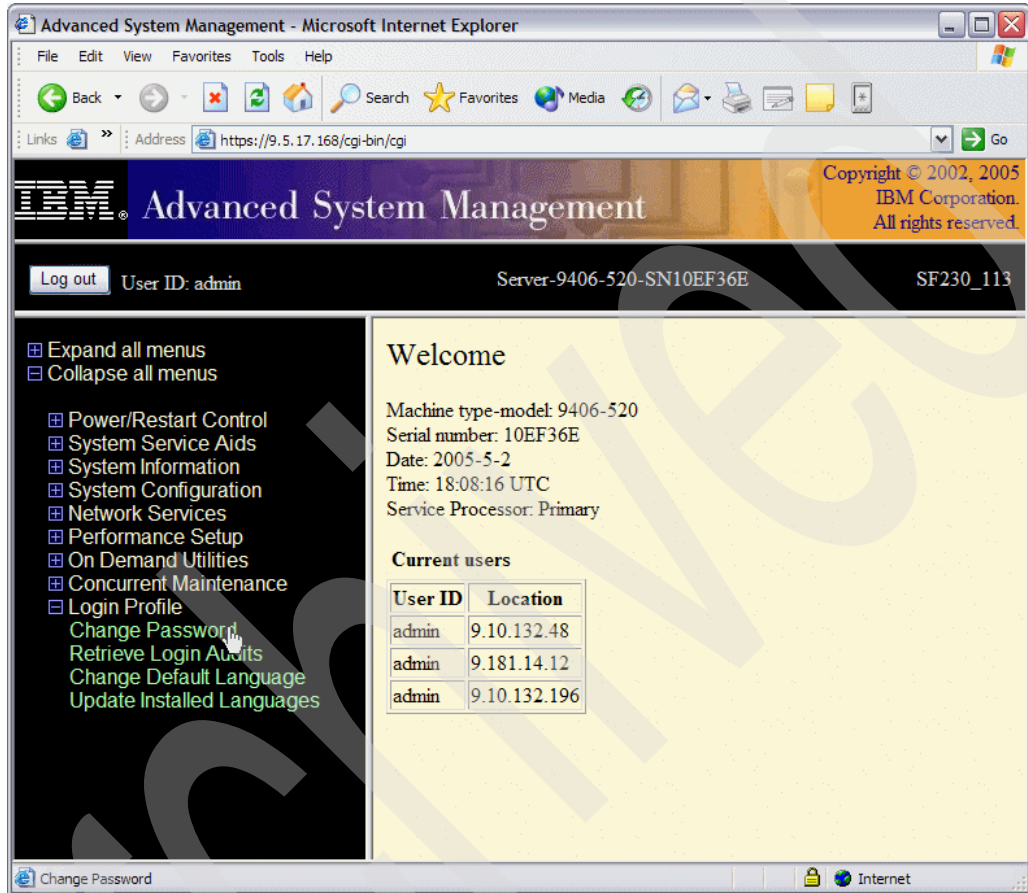

Figure 15-3 Select Change Password menu from Login Profile
2. Select the Change Password menu (Figure 15-3).